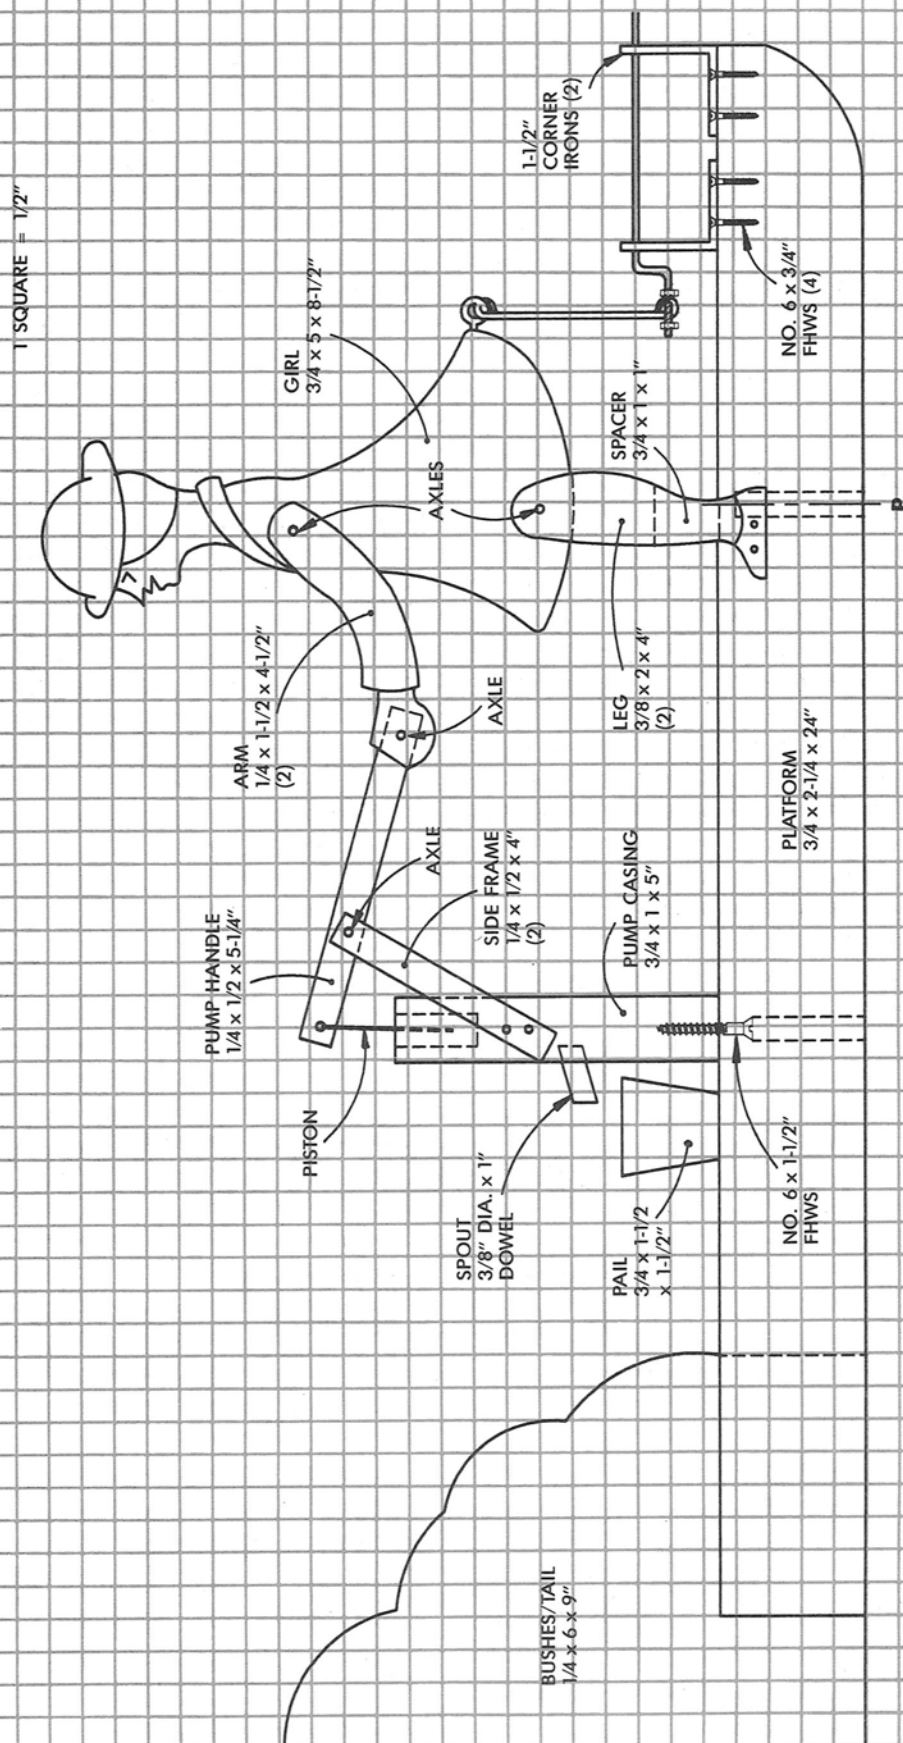

Figure 4-21. Plan for Girl at the Pump whirling.
1. Construct the platform and mark off where objects will be located (Fig. 4-21). Cut out the 1/4 in. slot for the tail to 4 in. from the back of the platform. Drill the 3/8 in. pivot socket 7 in. from the front of the platform. Drill a screw hole for the pump 15 in. from the front. Draw a line alongside the platform 3/4 in. from the top edge from 6 to 9 in. from the front. Cut out the tail and glue/brad it in place. Attach the corner irons.